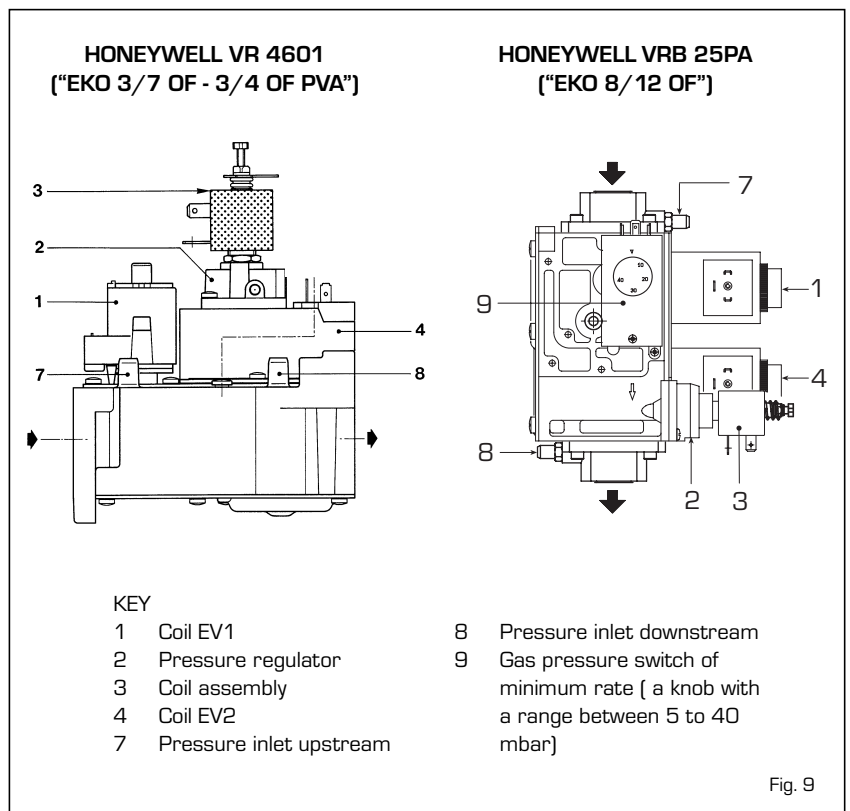

Fig. 9
4.1 GAS VALVE (fig.9)
- Connect the column test pressure to the socket which, in the case of the '3/6 OF-3/4 OF PVA' models, is located on the burner manifold. For the '7/12 OF' model connect the column test pressure to the pressure inlet downstream of the gas valve instead (8, fig.9).
- Remove the coil and tighten the screw all the way (4)
- Slacken lock nut (1) and turn union (3): turn the union (3) anti-clockwise to reduce pressure, or clockwise to increase it.
- Tighten lock nut (1).
when downstream at 11,5 mbar (4 fig. 2-2/a) with the pressure inlet, cod. 6043115 for G31, calibrated when upstream at 27 mbar and when downstream at 22 mbar. In the models with a gas valve 'VRB 25PA' instead, turn the knob of the minimum rate pressure (9 fig.9) changing the rate from 11,5 mbar for G20 to 22 mbar for G31.